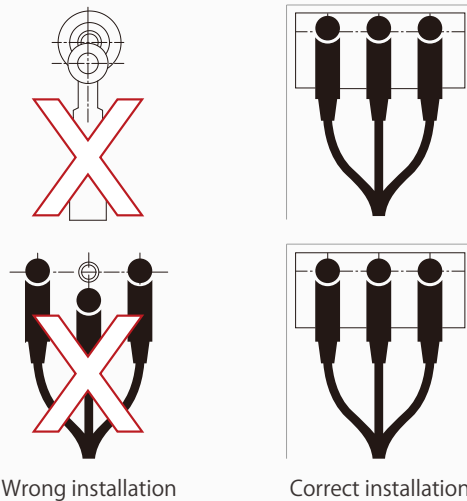

Figure 4-8 Schematic diagram of cable trench construction
- The center of the cable head must be consistent with the center of the casing to ensure that the casing is not subject to mechanical stress (see Figure 4-8).